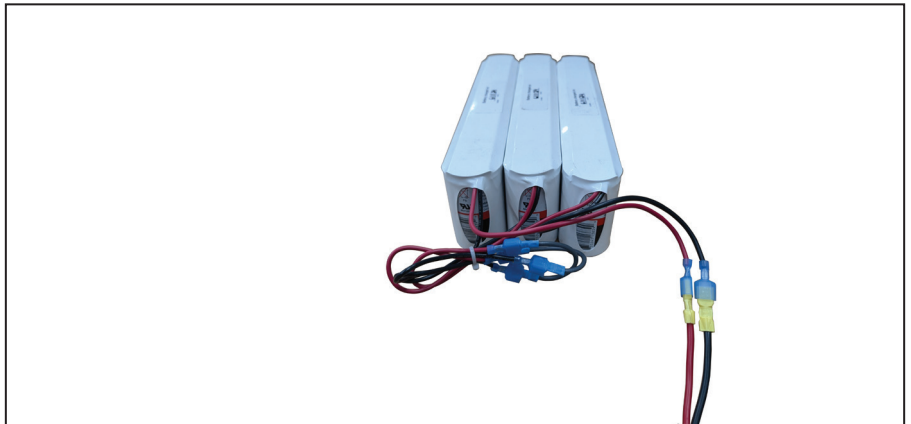

Figure 27. The battery pack with connectors. Note: Battery connections may differ. Refer to the drawings included with the switchgear for proper connections.
- STEP 1.** In the low-voltage enclosure, locate the connector leading from the Vista battery charger to the battery pack. Unplug the connector, taking care not to touch the energized end of the connector. See Figure 27.
- STEP 2.** The battery pack is located inside the low-voltage enclosure. See Figure 27 on page 33. Disconnect the cable connecting the battery pack to the Vista battery charger. To avoid minor electric shock, use care when handling the battery end of the connecting cable when the batteries are not fully discharged. Remove the battery pack. Used battery packs should be properly disposed of in a manner safe for lead-acid batteries, or they can be returned to S&C Electric Company for recycling. Contact the local S&C Sales Office for more information.